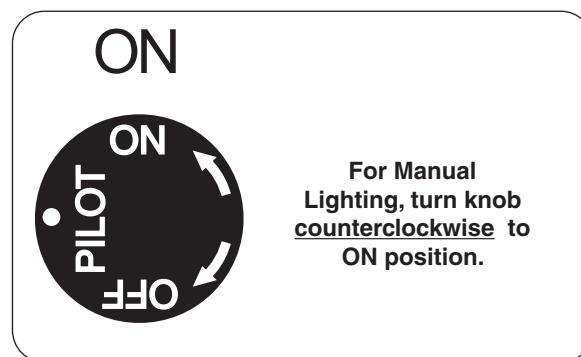

Fig. 31-3 Control knob detail (ON)
2. Turn the gas control knob counterclockwise to **ON** (Fig. 31-3) to ignite the burner. The valve will open and the burner will light.